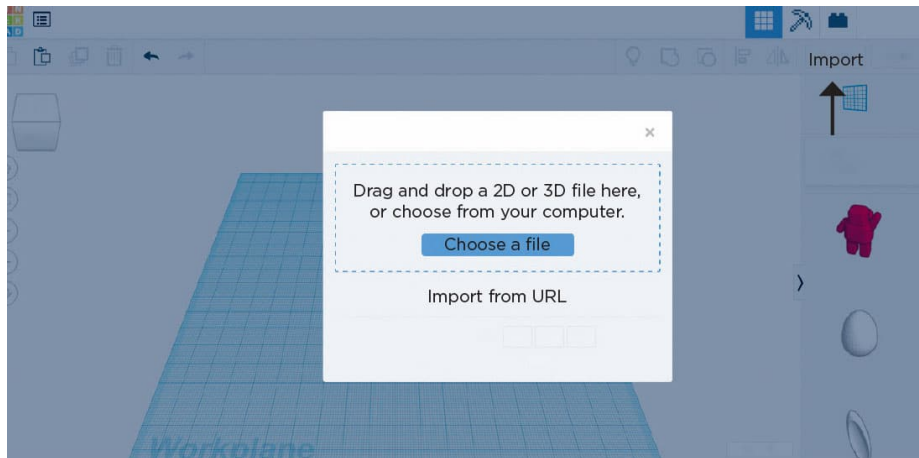

FIG. 1: Import design files into Tinkercad.
4. Open Tinkercad and click on **Create New Design** to get to a page with a blank workplane. Use the **Import Tool**, identified by the arrow in fig. 1, to import the completed design file onto the workplane. Repeat for all files you need to import.